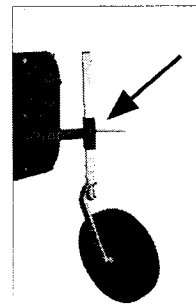

Fig. 5
- each one of the supporting wheel has got a clamp for the height adjustment above ground level on the right or left side of the machine (fig. 5).